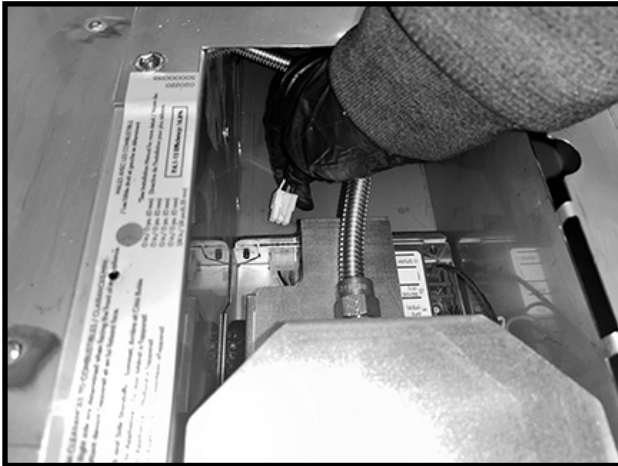

Figure 26: Disconnecting 24VDC to gas valve assy.
9. Disconnect Molex connector to the gas valve assembly (Figure 26).